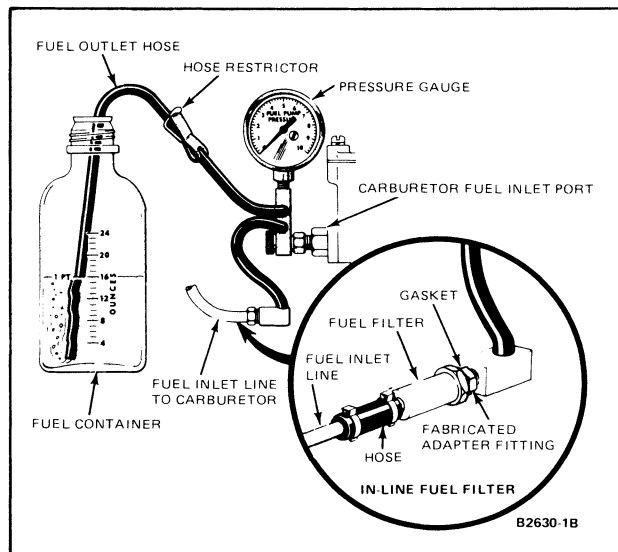

FIG. 4 Typical Fuel Pump Pressure and Capacity Test Equipment
2. Connect pressure gauge, restrictor and flexible hose (Figure 4) between the fuel filter and carburetor.
3. Position the flexible fuel outlet hose and the restrictor so the fuel can be discharged into graduated container (Figure 4).
2. Open the hose restrictor and expel the fuel into the container (Figure 4), while observing the time required to expel one pint. Close the restrictor. One pint or more of fuel should be expelled within the specified time limit (25 sec.).